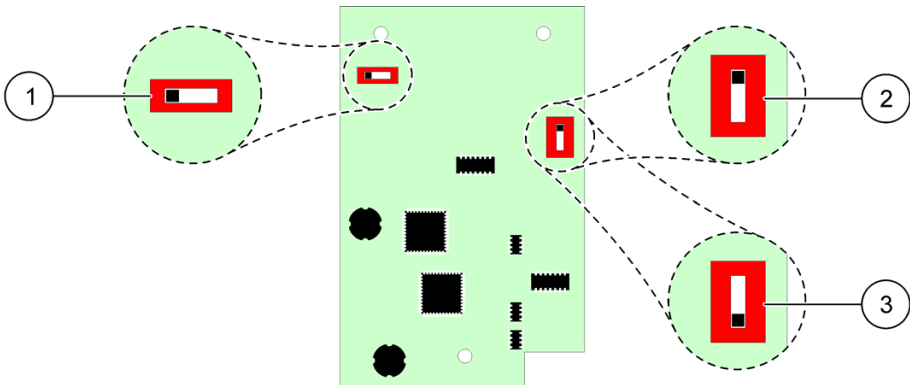

Figure 3 Switch positions on a Profibus card
The Profibus card programming switch must be in the correct position as shown in Figure 3, item 1. If the switch is not in this position, correct the position and reboot the controller. The controller will become fully on after sixty seconds.
Set the Profibus card termination switch to the correct position. To find the correct position, refer to Figure 3, items 2 and 3.